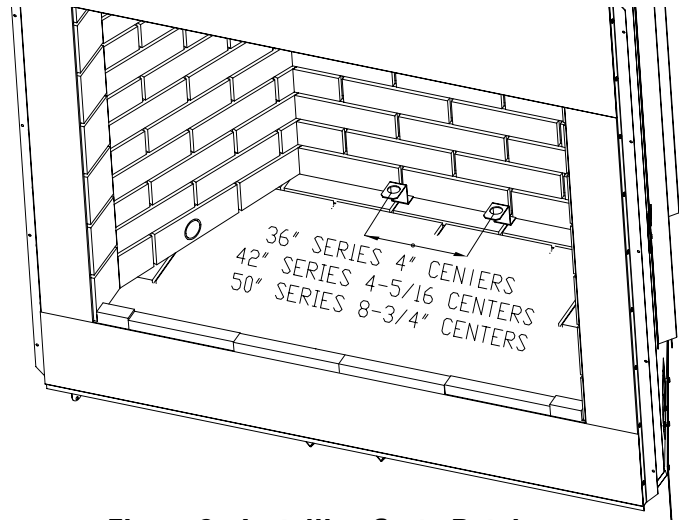

Figure 2 - Installing Grate Retainers
2. Position "Z" shape retaining brackets on top of the notched area toward the rear of the bottom refractory panel. Grate retaining bracket should be positioned as shown in Figure 2.